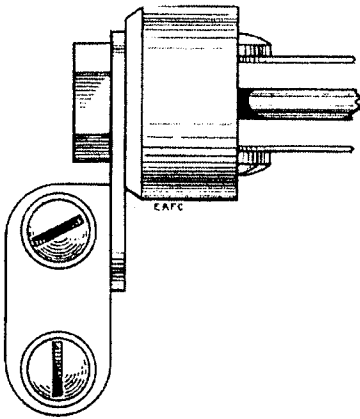

FIG. 4. GOVERNOR CUP AND BRACKET (FRONT VIEW)
2. Governor. The governor wings should be free from kinks or bows and, as an initial adjustment, they should be set slightly inwards by means of "Pliers, Adjusting, No.5". The governor-cup fixing holes are elongated, to enable the cup to be positioned to give the best running position for the governor, i.e. the cup should be square with the governor when observed from the angles shown in Figs.4 and 5. The governor should run smoothly in both directions. It should be free, with a maximum end-play of 13 mils as near as can be judged by feel. The governor may be tested to prove that it is running satisfactorily in both directions, by running a small screwdriver along the governor worm as shown in Fig.6. The governor should be adjusted to run smoothly *before* any further assembling or adjustments are carried out.